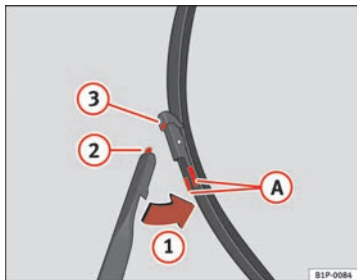

Fig. 148 Changing the front wiper blades
- Press on the side tabs **A** and release the blade moving it in the direction of the arrow **1** ⇒ fig. 148.
- Insert the tab **2** into the slot **3** of the blade ⇒ fig. 148.
- Move the blade towards the arm in the opposite direction of the arrow **1**, until it clicks into position ⇒ fig. 148.